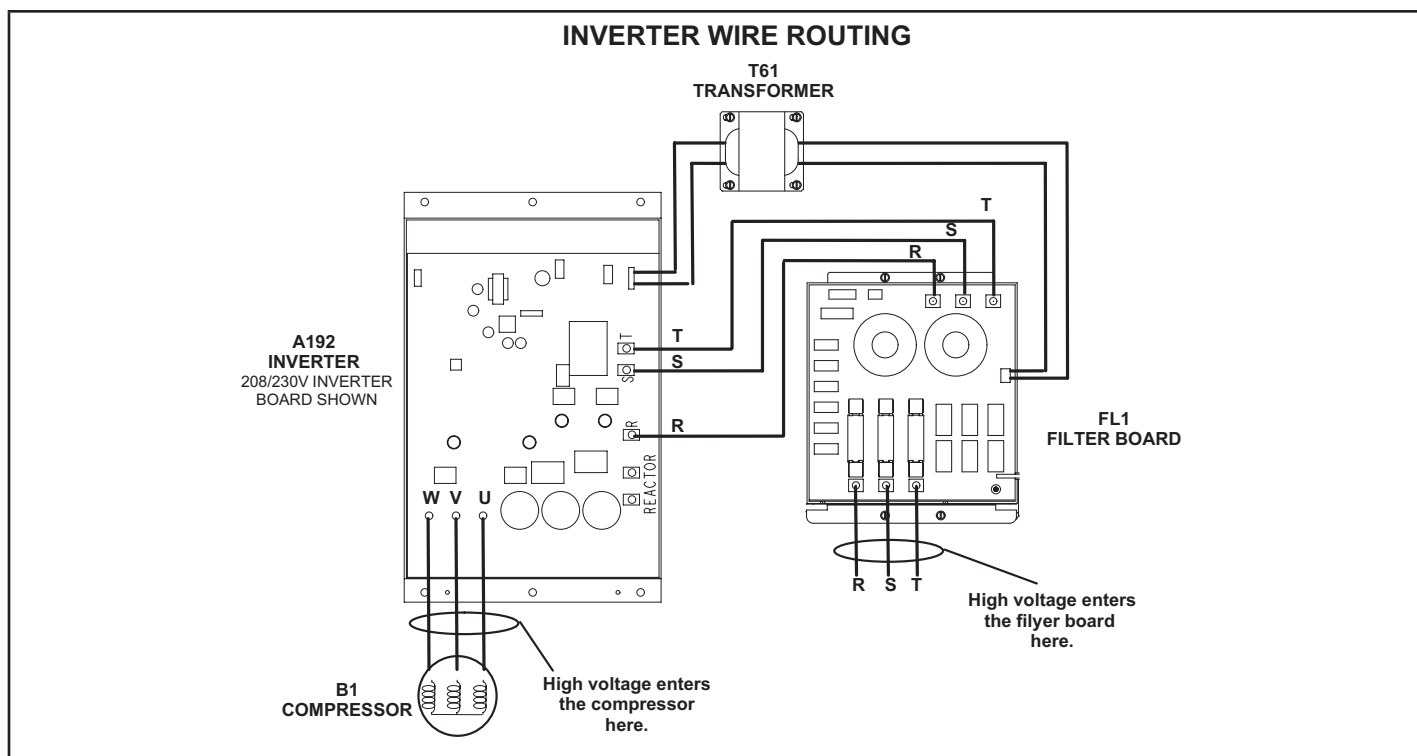

FIGURE 8
- A communication issue - check MODBUS communication wire for good connections between the Unit Controller and the inverter board. See table 5 for inverter-related alarms. Inverter component wire routing is shown in FIGURE 8.